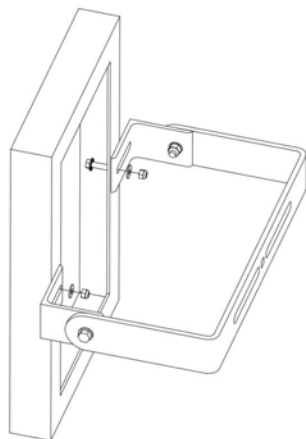

Figure 5
- Step 3: Mount module to the angle brackets using the 1/4" hardware as seen in Figure 5.